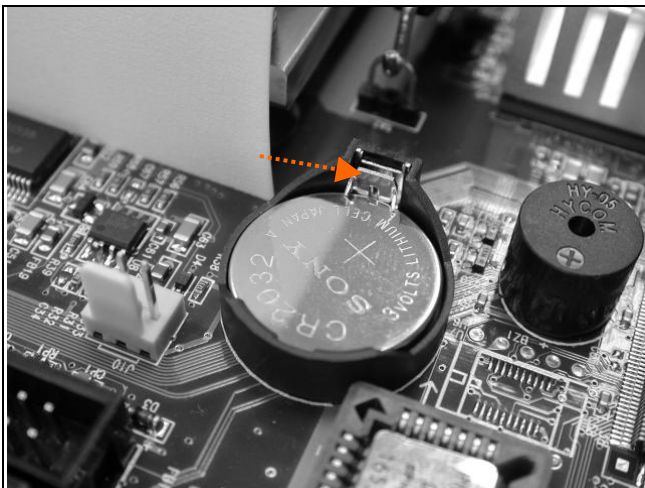

Fig. 2-24
1. Press the metal hook backward. (**Fig.2-24**)